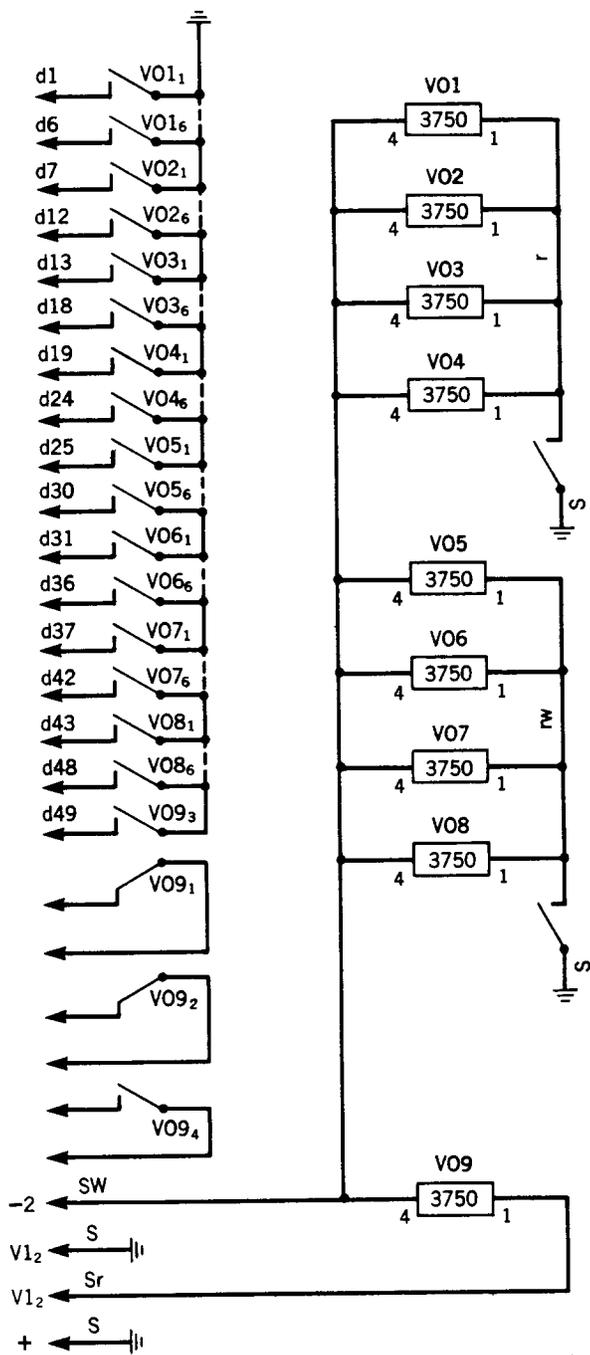

Fig. 6
applies a ground to the sleeve of all idle lines when all concentrator trunks are busy, causing a busy signal to be returned on any incoming calls. It is applicable to 49-9-2 concentrators with the serial numbers from 448 up and to all 49-12-2 concentrators. A schematic of the circuit is shown in Fig. 6.
- (b) Ground lead (wire designated + on Fig. 6) to + terminal.
- (c) The lead (wire designated V12 on Fig. 6) from number 1 winding terminal of the VO9 relay to one of the V12 terminals.